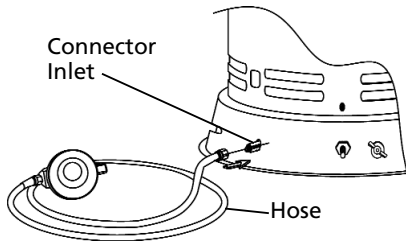

Figure 8 – Hose and Inlet Connector
10. Attach hose to the connector inlet (Figure 8). Use a wrench to prevent connector inlet on heater from turning as you tighten firmly using a second wrench. You must use the regulator supplied with heater even if propane tank has one.